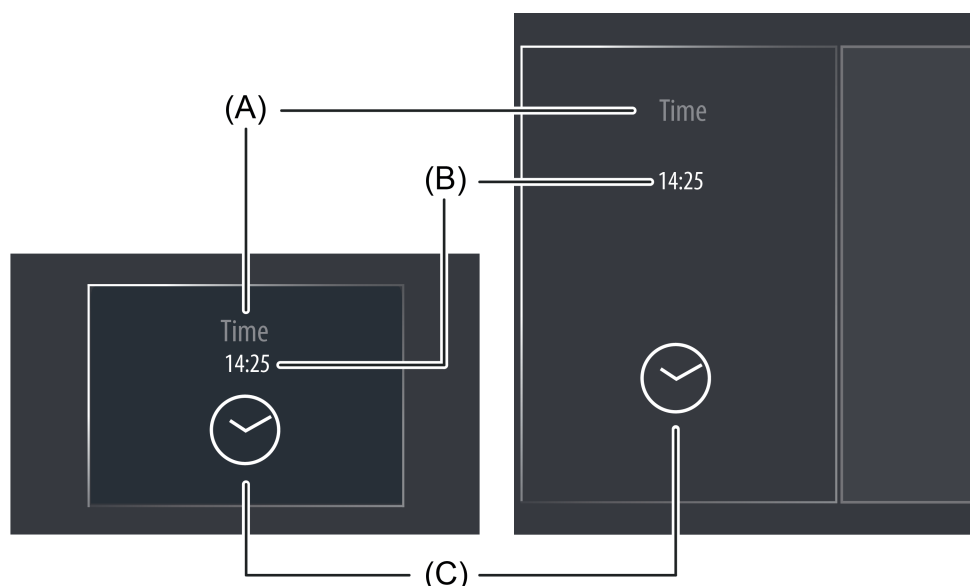

Figure 45: Example of a display element of the function "KNX Time"
The display area contains different display elements (figure 45) that are influenced by parameters. A name can be assigned to each KNX function in the configuration software (A). This text name is centred in the display element for display whereby controllable KNX functions are identified for the user (e.g. "Time"). The time (B) is displayed below this. The parameter "Time display format" defines the format of the display element and makes it possible to adapt the time display to international systems.